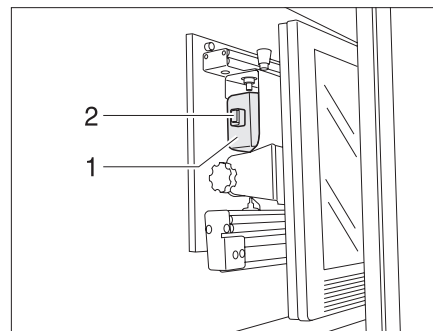

Fig. 5 Holder in the TV cabinet
- ▶ Rotate the television to its initial position (Fig. 5) and lock it into place.
- ▶ Use handle (Fig. 5,1) to push the holder for the flat screen backwards. The latch (Fig. 5,2) will engage.